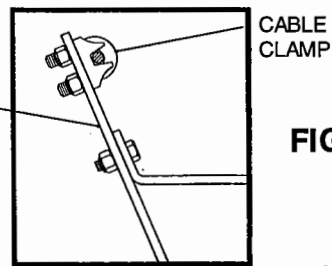

FIG. 21
- Step 4. Run the cable over the truss cross brace, then toward the intake end of auger. Attach cables to the top of the truss using a 3/8" cable clamp. **DO NOT** tighten cable clamps at this time. See Fig. 21.